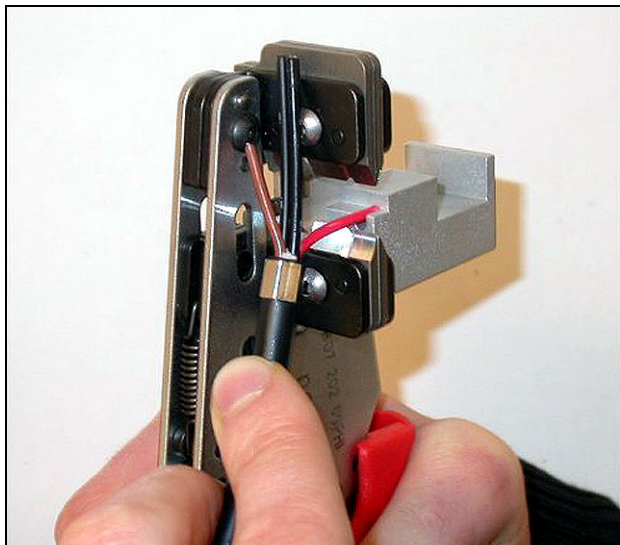

figure 29.11: Stripping a copper wire
- 9 Strip the red and brown insulations from the copper wires by pushing them to the mechanical stop of the stripping tool (tool 5, see figure 29.11).